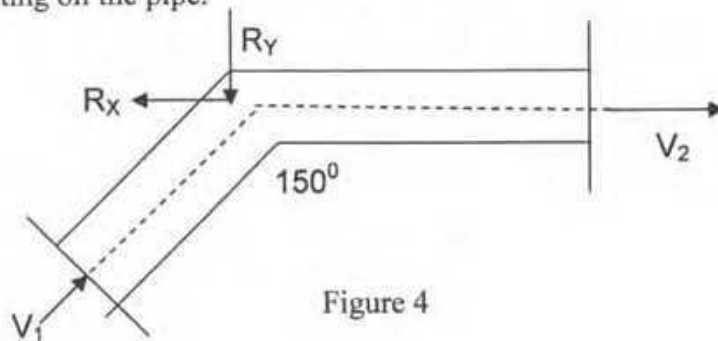

Figure 4
- c. Water enters in a 150° horizontal reducing pipe with a velocity of 5 m/sec and a pressure of 50 kN/m^2 as shown in Figure 4. If the diameters at the entrance and exit sections are 40 cm and 20 cm , respectively, calculate the components of the reaction e.g. R_x and R_y acting on the pipe. 13